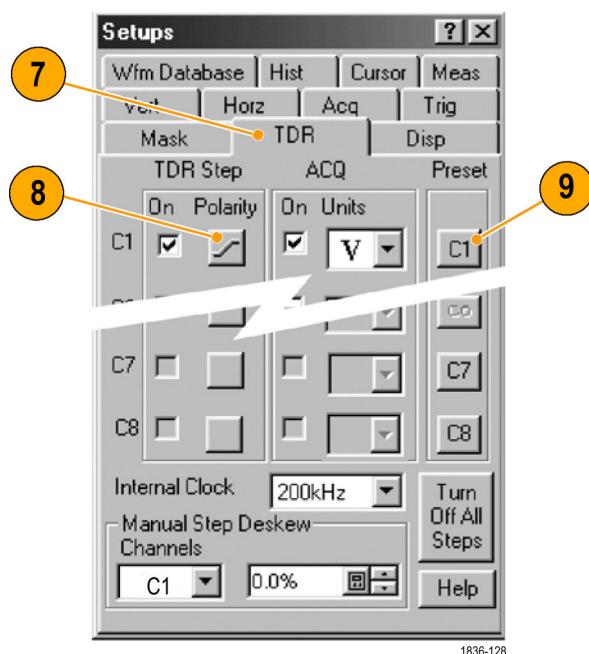

Figure 13: TDR parameter setup
7. Set the Channel 1 sampling head to TDR mode: press the **SETUP DIALOGS** button and select the TDR tab. (See Figure 13.)